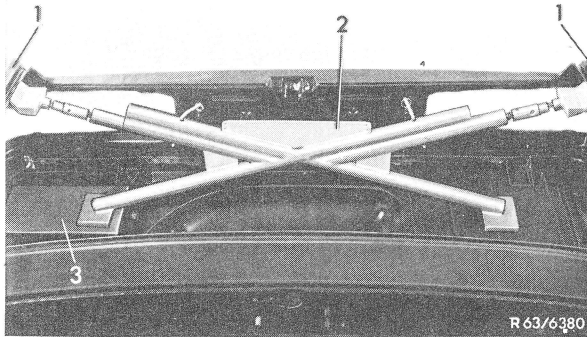

Fig. 2
23 Check correct seat of fender (1) by opening and closing doors, trunk lid and top well cover, and align by inserting cross spindle (2) (Fig. 2).